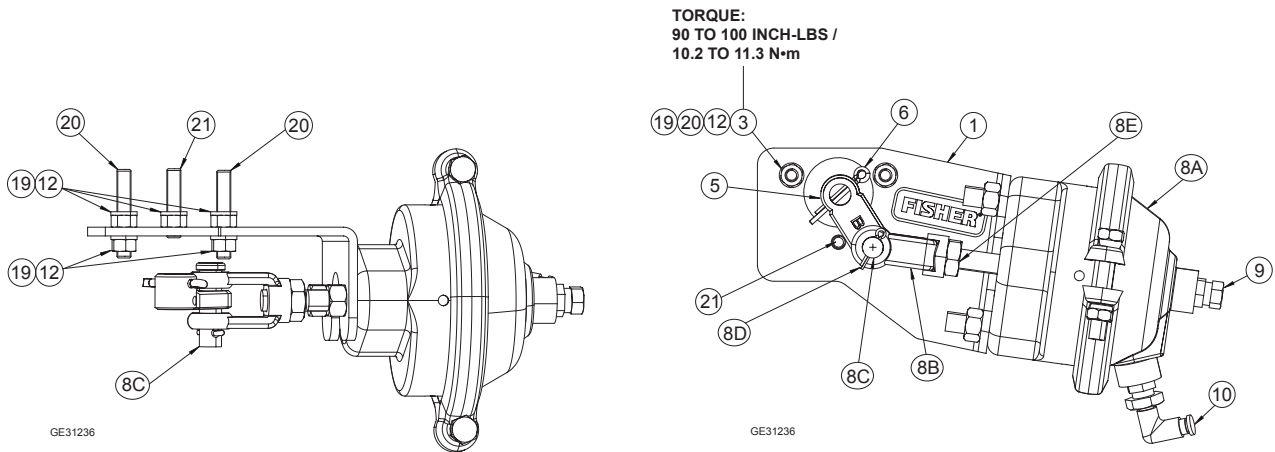

Figure 6. Type P639A for Types C407, C471, and C477 (2 and 3-inch NPT) Internal Valves
instructions below in section labeled Screw-Type Mounting Hardware. For the Stud-Type design using keys 12, 19, and 21, as shown in Figure 6 skip to Hardware section. All keys are referenced in Figure 6.
Install new stud-mounted hardware—Position the lever (key 5) with Side B facing away from the bracket. Insert the clevis pin (key 8C) through the clevis (key 8B) and the lever and secure with the small cotter pin (key 8D). Remove the three cap screws holding the gland housing to the internal valve body and discard them. Install the provided long studs (key 20) in the top-most hole locations, and the short stud (key 21) in the bottom-most “6 o’clock” location. Secure the gland to the body with the first set of washers (key 12) and nuts (key 19). Mount the actuator bracket (key 1) as shown in Figure 6 and secure using the second set of washers (key 12) and nuts (key 19) supplied with this unit. Fit the operating lever on the internal valve shaft as the bracket is moved into place.
clevis (key 8B) and the lever and secure with the small cotter pin (key 8D). Remove the protective caps from the studs, exposing the threads. Fit the operating lever on the internal valve shaft as the bracket is moved into place. Mount the actuator bracket (key 1) as shown in Figure 6, securing the bracket to the two long studs (key 20) with the two nuts (key 19) and washers (key 12) supplied with the unit.
Using existing capscrews—Position the lever (key 5) with Side A facing away from the bracket. Insert the clevis pin (key 8C) through the clevis (key 8B) and the lever and secure with the small cotter pin (key 8D). Remove the three cap screws (key 3) holding the gland housing to the internal valve body and mount the actuator bracket (key 1) as shown in Figure 6 and secure using the same three cap screws. Fit the operating lever on the internal valve shaft as the bracket is moved into place.